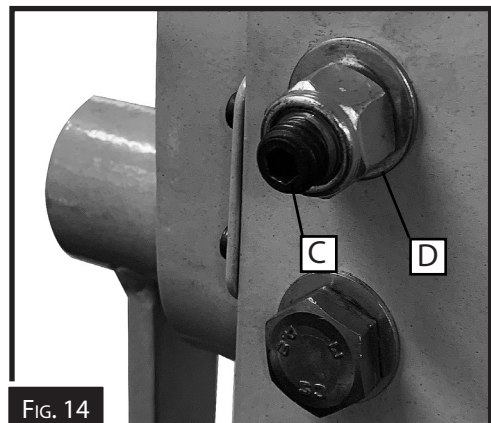

FIG. 14
1. With an Hex key hold the set screw "C" in Figure 14.
2. Tighten the nyloc nut "D" in Figure 14 until the block is tight then back the nyloc nut off half a turn or until the block moves with the (39#) Tension Adjustment Handle.